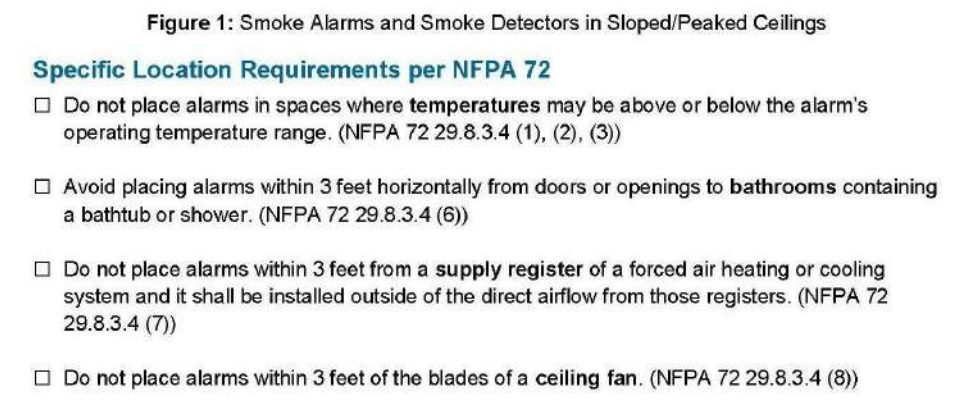

Figure 1: Smoke Alarms and Smoke Detectors in Sloped/Peaked Ceilings
- Alarms in peaked or sloped ceilings must be within 3 feet horizontally and no closer than 4 inches vertically to the peak. Avoid placing alarms in dead air spaces; refer to Figure 1. (NFPA 72 29.8.3.1, 29.8.3.2, 29.8.3.4 (9), (10))
- For coffered ceilings, alarms shall be installed on the highest portion of the ceiling or on the sloped portion of the ceiling within 12 inches vertically down from the highest point. (NFPA 72 29.8.3.4 (11))